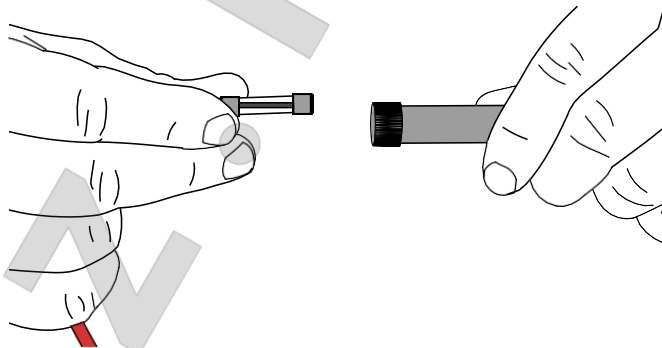

Figure 8
- Fuse blown. Inspect fuse in fuse holder. If blown, replace (See Figure 8).